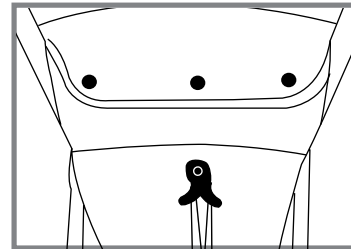

Fig. 11B
17. Snap the three back buttons located on the back of the seat, as shown in Fig. 11B.